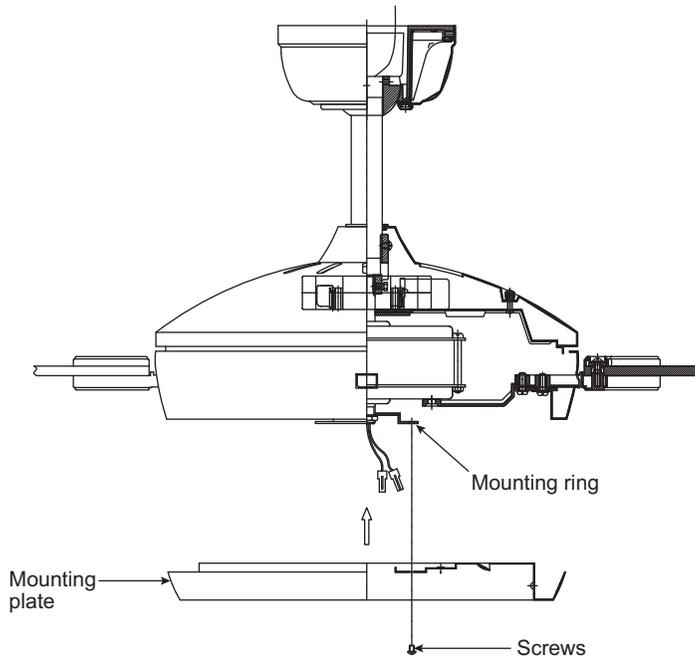

Fig. 16
1. Remove 1 of the 3 screws from the mounting ring and loosen the other 2 screws (do not remove). (Fig. 16)
2. Place the key holes on the mounting plate over the 2 screws previously loosened from the mounting ring, turn mounting plate until it locks in place at the narrow section of the key holes. Secure by tightening the 2 screws previously loosened and the one previously removed. (Fig. 16)